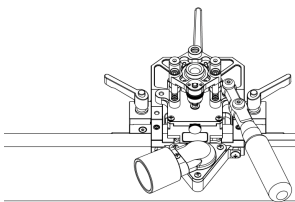

FIG. 11
4. Lock both of the adjustable locking handles on each side of the Pocket Mill Pro. (See Figure 11)